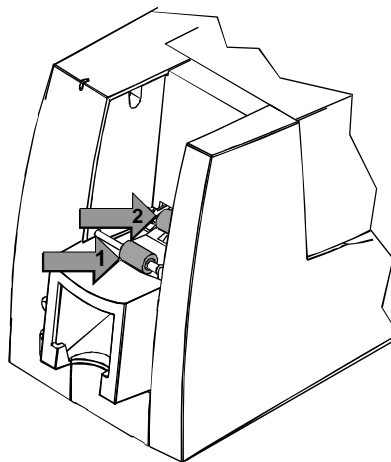

Figure 4-7: Clean the pick rollers
- b Remove the cap from the cleaning pen. Hold the end of the cleaning pen against the first pick roller (step 1 in Figure 4-7).
- g Repeat steps c through f, placing the cleaning pen on the second pick roller (step 2 in Figure 4-7).